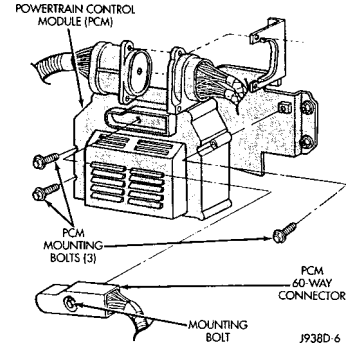

Fig 7
3. Disconnect the 60-pin connector from the controller using an 8mm socket wrench (5/16 inch will also). (Fig. 7 - Top of Pg. 5)